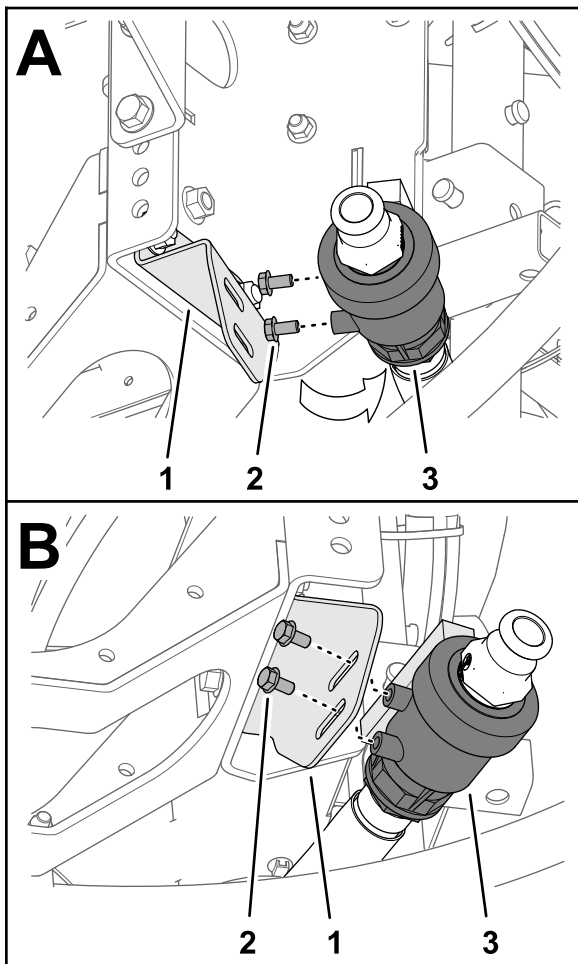

Figure 14
- Remove the 2 flange-head bolt (5/16 x 5/8 inch) from the case of the drain valve (Figure 14).